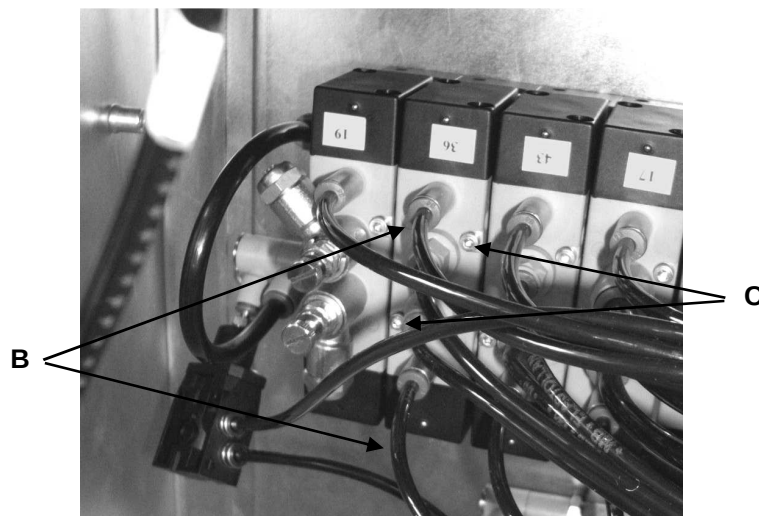

Fig. 10-10
- 3) To change each valve, disconnect the relative air hoses "B" (Fig. 10-10).
- 4) Undo the 2 fixing screws "C" (Fig. 10-10).
- 6) Fix the new valve in place using the 2 fixing screws "C" (Fig. 10-10).
- 7) Connect up the relative air hoses "B" (Fig. 10-10).